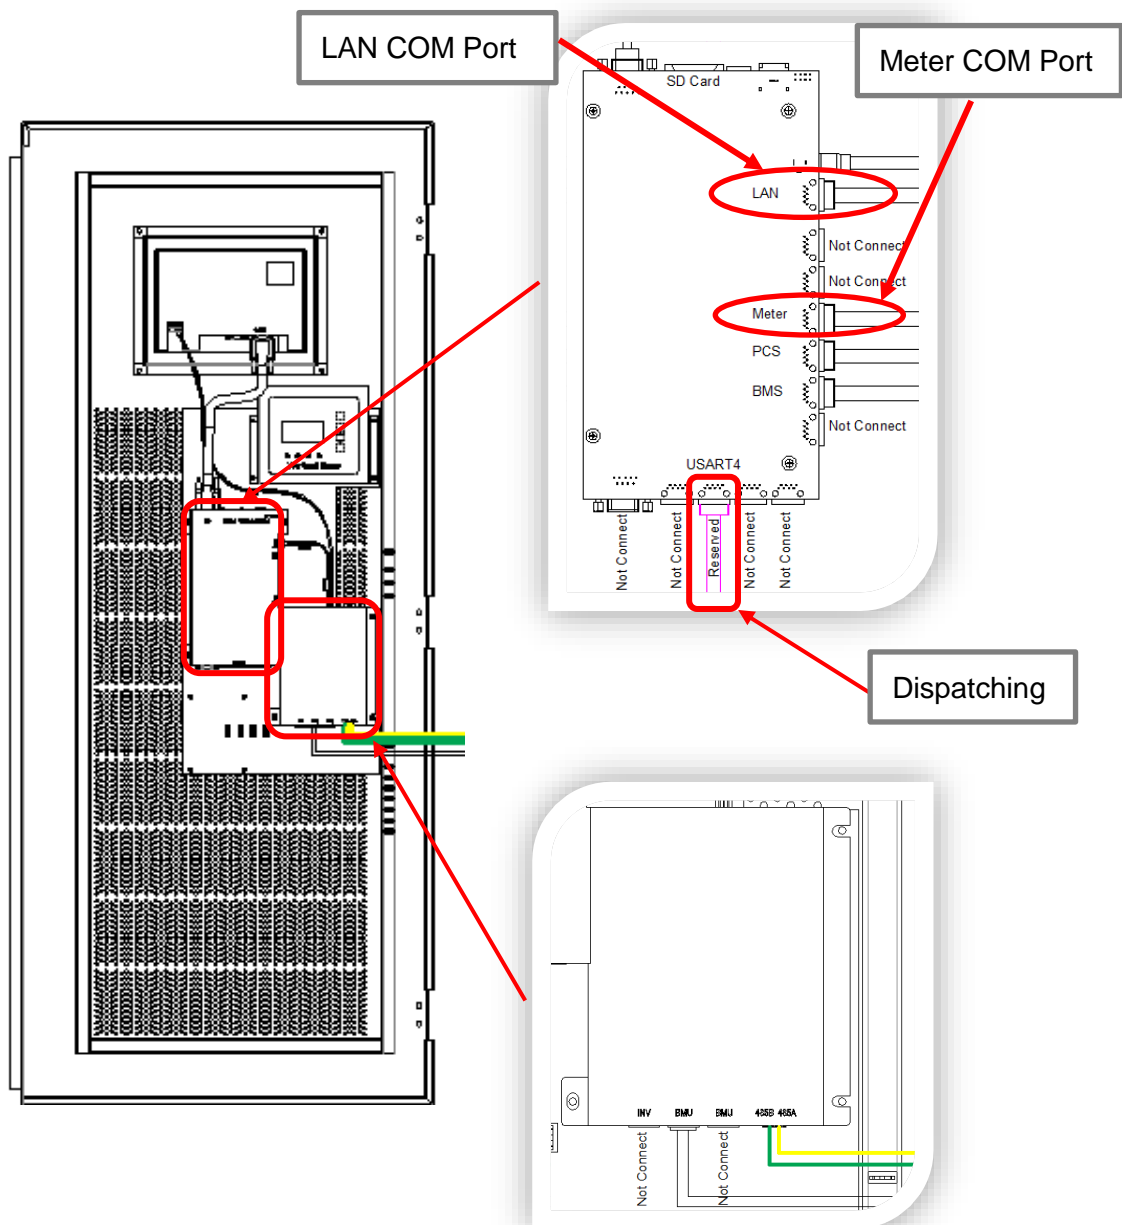

Figure 4.12 Connection LAN and Meter communication cables
Step 1: Connect the LAN communication cable between the LAN COM port of EMS board and the router as per Figure 4.12.
Step 2: Connect the Meter communication cable between the Meter COM port of EMS board and the power meter as Figure 4.12.
Step 3: If you need dispatching functionality, you can insert your dispatching module into the USART4 socket as shown in the Figure 4.12.